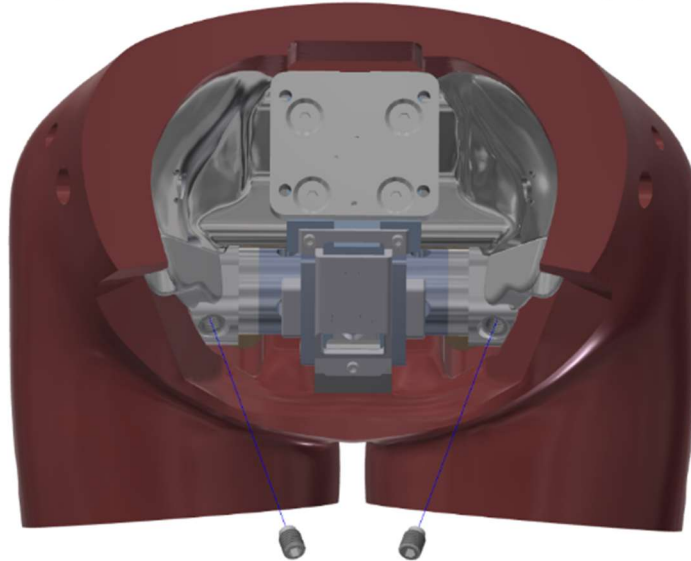

Figure 8-4. Loosen the left and right Pelvic Plunger Assembly
- 8.2.1 After uninstalling the legs and torso, the pelvis can be disassembled. Start by loosening the left and right Pelvic Plunger Assembly (474-4315) (Figure 8-4).